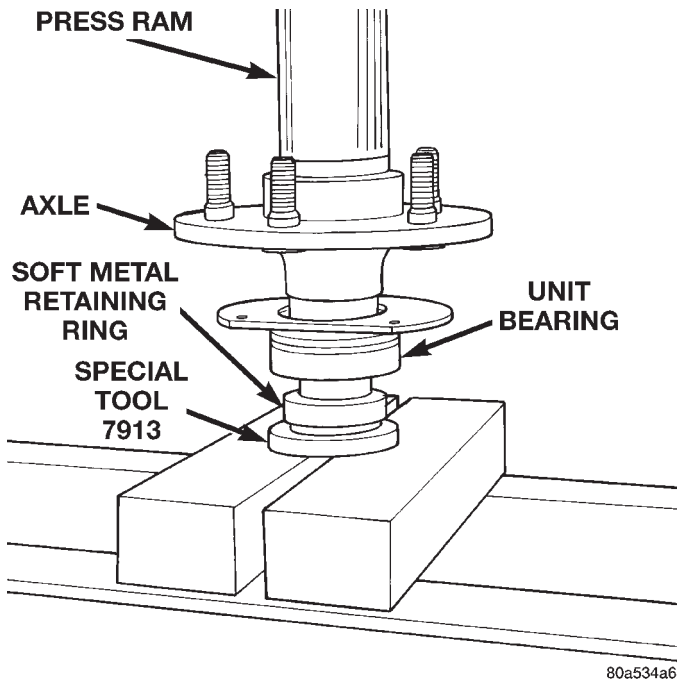

Fig. 30 Press Bearing Retaining Ring On Axle
(8) Using Installer 7913 and shop press, press soft metal retaining ring onto axle shaft (Fig. 30).